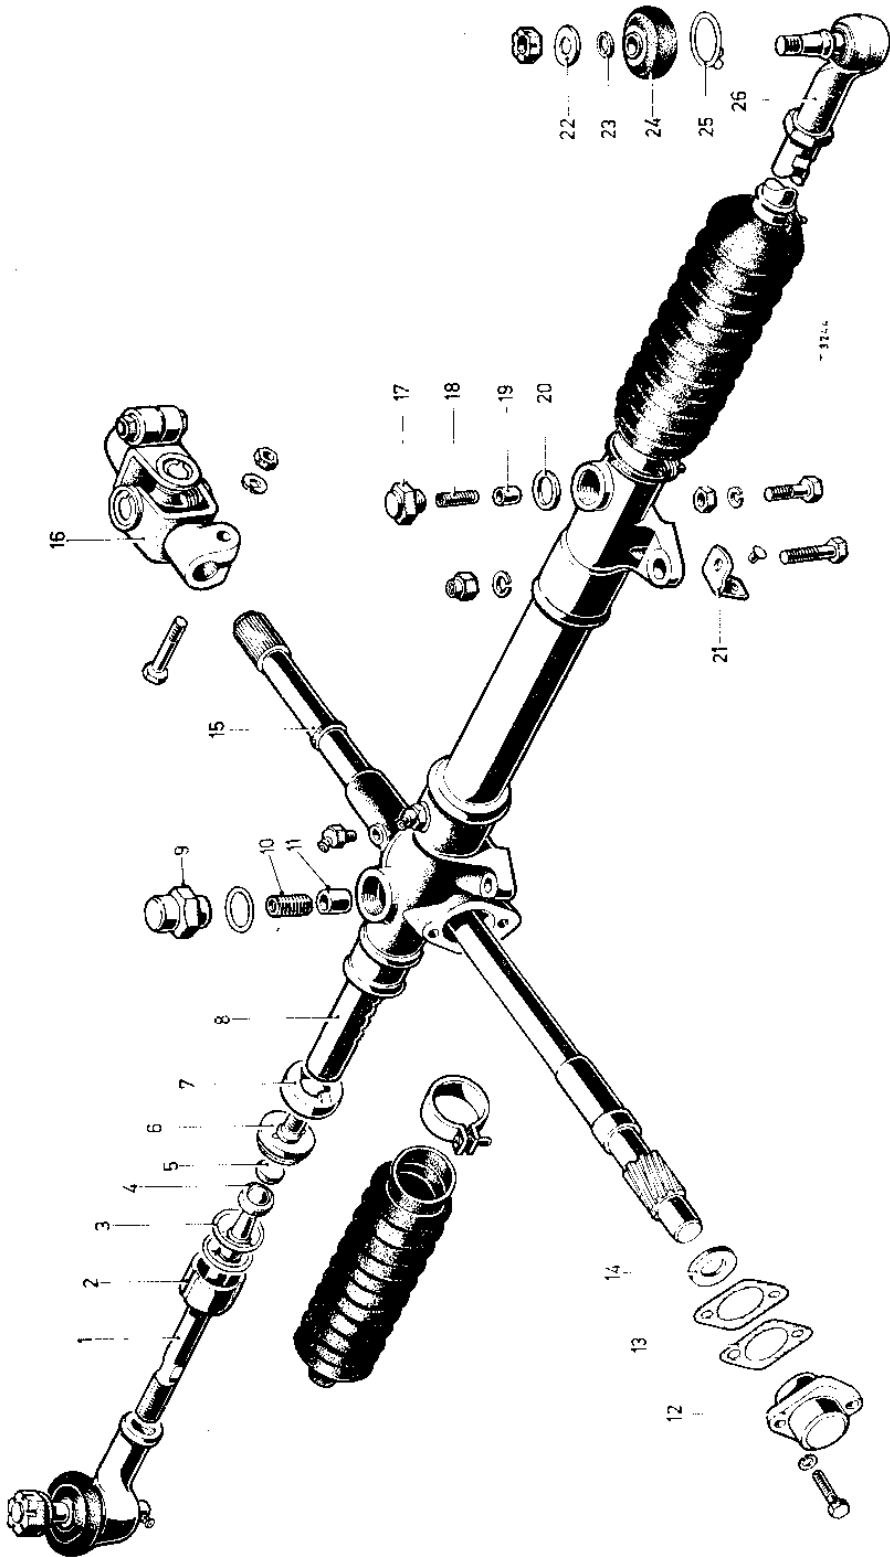

Fig. 30. Steering gear, exploded view
**Steering gear:** The steering gear is of the rack-and-pinion type; in Fig. 30 an exploded view is shown.
- (1) Jack-up the front of the car and place stands beneath the chassis side-members. Remove the wheels. Unscrew the castellated nuts and drive the trackrod ball-pins from the steering levers.
- (2) Remove the steering rack damper and secondary damper assembly. Remove the lower pinion bearing, together with the shims and lower thrust washer, taking precautions to catch the oil draining from the rack. Turn the steering wheel to full lock (left lock on right-hand drive cars, right lock on left-hand drive cars) and remove the clamp bolt and nut from the universal joint, on the pinion shaft side. Withdraw the pinion.
- (3) Unscrew the bolts and nuts securing the steering-rack housing to the chassis frame, taking care not to lose the packing shims between the rack and the frame brackets. Carefully manoeuvre the steering rack from the car.
- (4) Bend back the lock-washer and unscrew the ball-joint assemblies. Remove the dust-boot clips and dust-boots. Install the rack housing in a vice with soft jaws and bend back the lock-washers securing the trackrod ball-housings. Unscrew the ball-housings, preferably with tool 18G313. Remove the lock-washers and withdraw the steering rack from the housing. Remove the pinion-shaft upper thrust washer. If necessary, the trackrod ball-housings may be dismantled. Take care not to interchange the shims and ball seats.
- (1) Place a block in front of one of the front wheels and jack-up the rear of the car. Remove the nave plate and the rubber plug from the adjuster hole. Spin the wheel and apply the foot brake hard to centralize the shoes.
- (2) Turn the wheel until the adjuster hole comes opposite the adjuster. Turn the adjuster in a clockwise direction until the brake shoes are in contact with the brake drum; then turn back the adjuster just enough to free the drum.
- (3) Repeat these operations on the brake shoes of the opposite wheel.
*Key to Fig. 30*